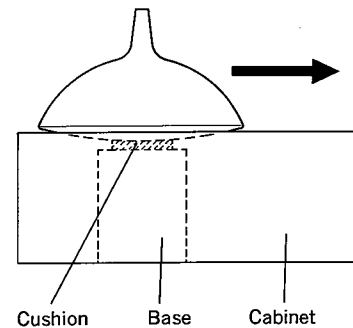

Fig. 2-4
8. Replace the CRT with new one. For installation of the picture tube, reverse the above procedure, as shown in Fig. 2-4.